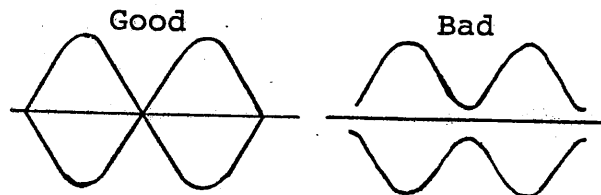

Figure 2
1. Replace Signal unit jumper J27 with an XZ-070 zener diode. (PCB coordinate C-1, see figure 2.)
7. Adjust TC4 (CAR1 8.8315 MHz for USB) so that a complete tone waveform is observed, as shown in figure 2. Return to REC, and resolder D124.
9. Set STBY to SEND and adjust TC3 (CAR2 8.375MHz ) so that a complete two tone signal is displayed, as in Fig. 2.